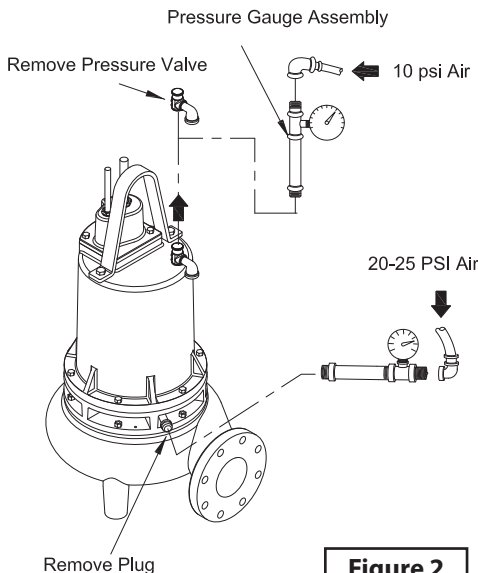

Figure 2
Motor Housing - Oil should be at normal level. Remove pressure valve (11) from motor housing (3). Apply pipe sealant to pressure gauge assembly and tighten into hole (See Figure 2). Pressurize motor housing to 10 P.S.I. Use soap solution around the sealed areas above the oil level and inspect joints for "air bubbles". If, after five minutes, the pressure is still holding constant, and no "bubbles" /oil seepage is observed, slowly bleed the pressure and remove the gauge assembly. Replace oil. Leak must be located and repaired if pressure does not hold.